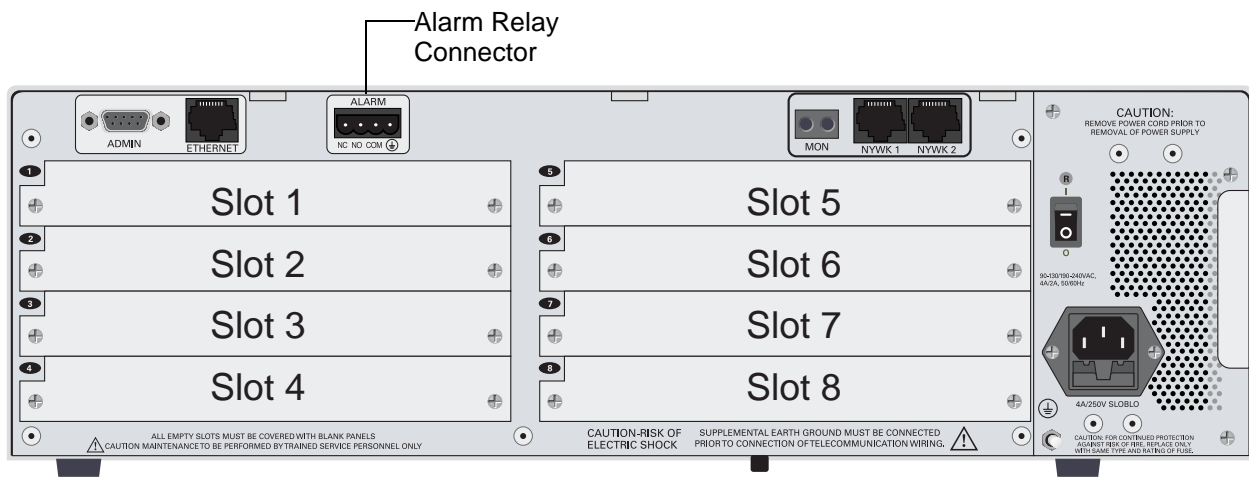
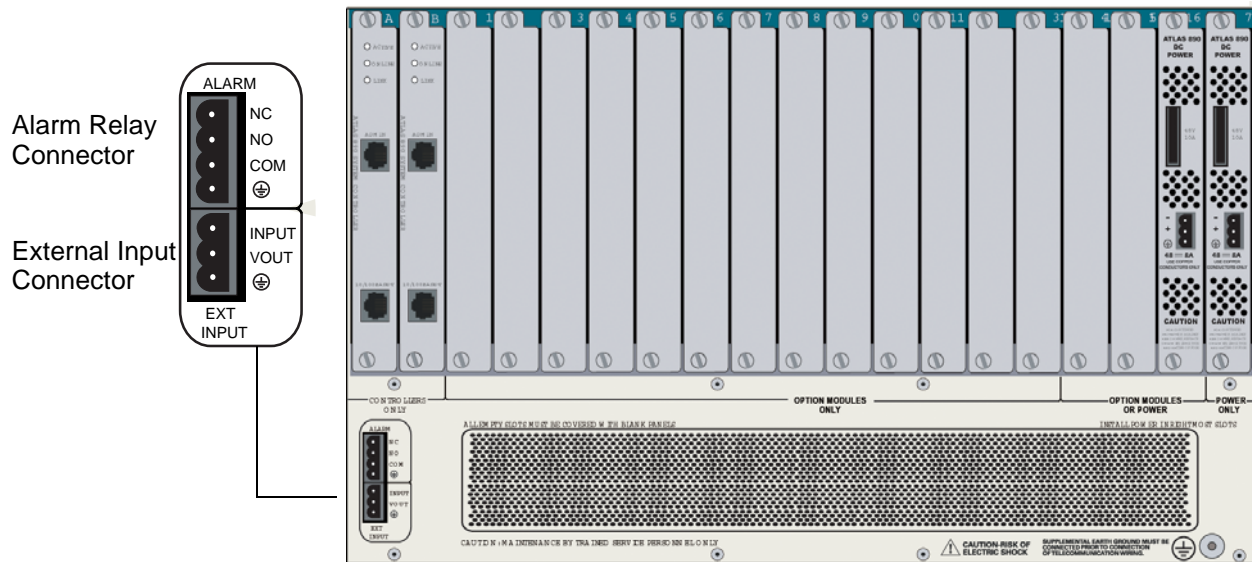

Figure 1. ATLAS 830 Rear View
Figure 2. ATLAS 890 Rear View
1. Determine whether the external alarm reporting device uses normally open (NO) or normally closed (NC) relay contacts to sense an alarm condition. (Table 1 on page 349 shows the ATLAS alarm relay pinout.)
2. Figure 1 on page 349 and Figure 2 on page 350 show enlarged drawings of the alarm relay connectors.